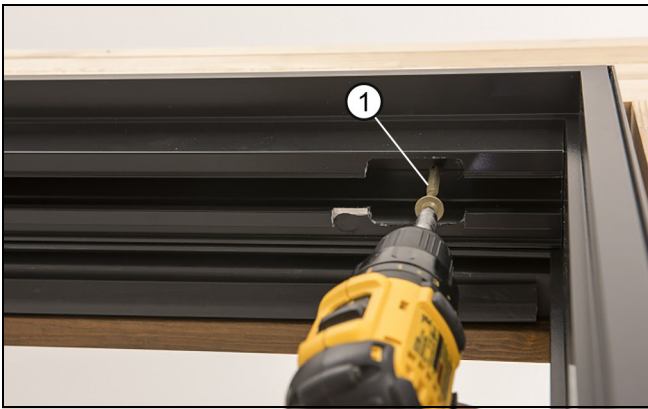
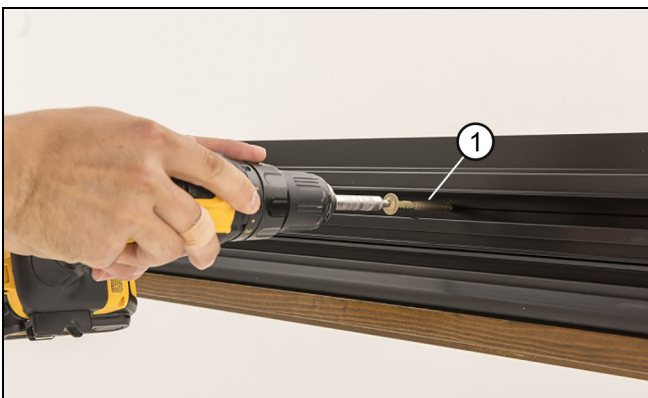

Figure 32
Figure 33
4. Fasten the head jamb track through all the pre-drilled holes with installation screws provided. Apply sealant to the threads and heads prior to assembly. See Figure 32 and Figure 33